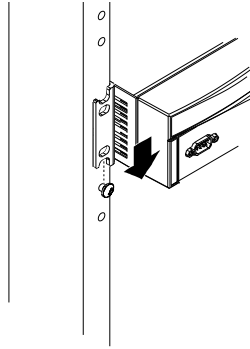

Figure 1-8. Position the Switch for Rack Mounting
4. Place the switch in the rack and lower it so the notches in the bottom of the bracket slide onto the screws you installed in step 1. Tighten these screws—be careful not to overtighten. (Refer to figures 1-8 and 1-10.)